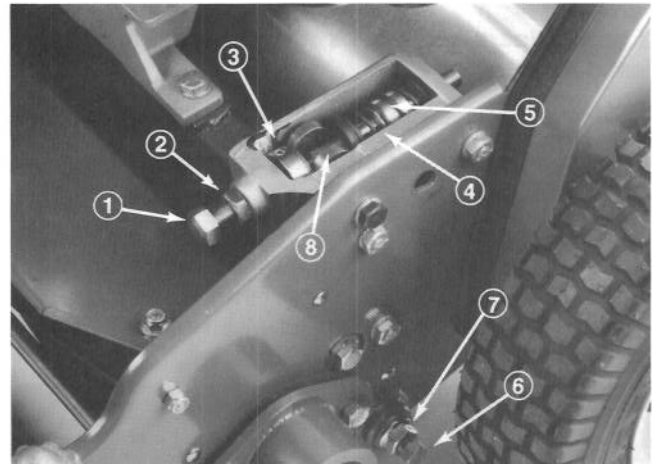

Figure 46
2. Loosen jam nut securing each bed bar adjusting screw to each frame adjuster (Fig. 46).
3. Loosen each bed bar adjusting screw until locking collar bottoms out on frame adjuster (Fig. 46).
4. Using a spring compressor or clamp, compress springs on bed bar adjusting screws to free bed bar from frame adjusters (Fig. 46).
5. On each side of machine, loosen the jam nut securing bed bar bolt (Fig. 46)
6. Remove each bed bar bolt allowing bed bar to be pulled downward and removed from machine (See figure). Account for (2) thrust washers on each end of bed bar bolt.